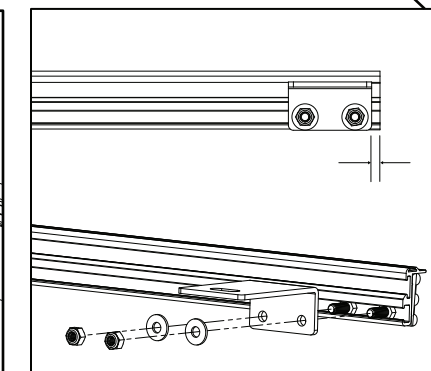

FIGURE 3
4. Install 102956 into the end of the rail, approx. 1" (figure 3). Ensure the silver nylok hex nuts are tightened securely.